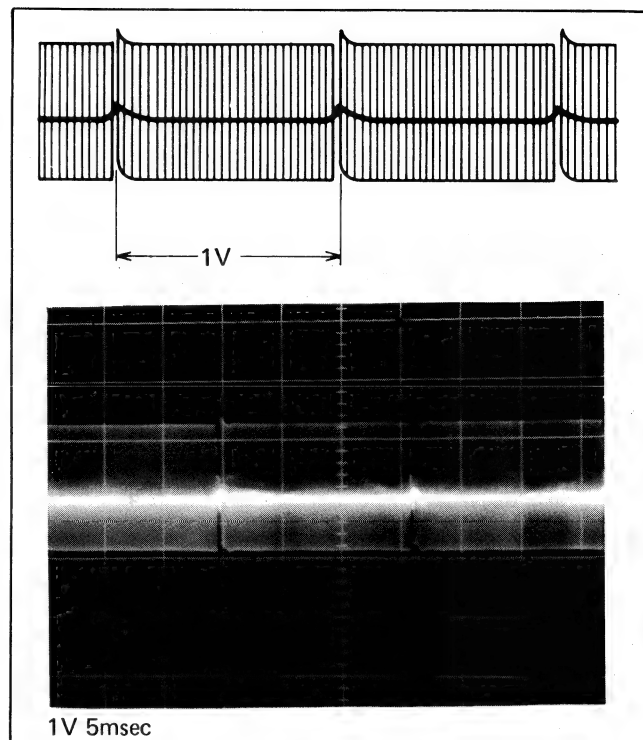

Fig. 2
- d. Now, observe the signal at the vertical rate at test point TP604, and adjust the vertical parabola control BR602-3 and the vertical sawtooth control BR602-4 so that the signal waveform is flattest during the vertical period as shown in Fig. 2.